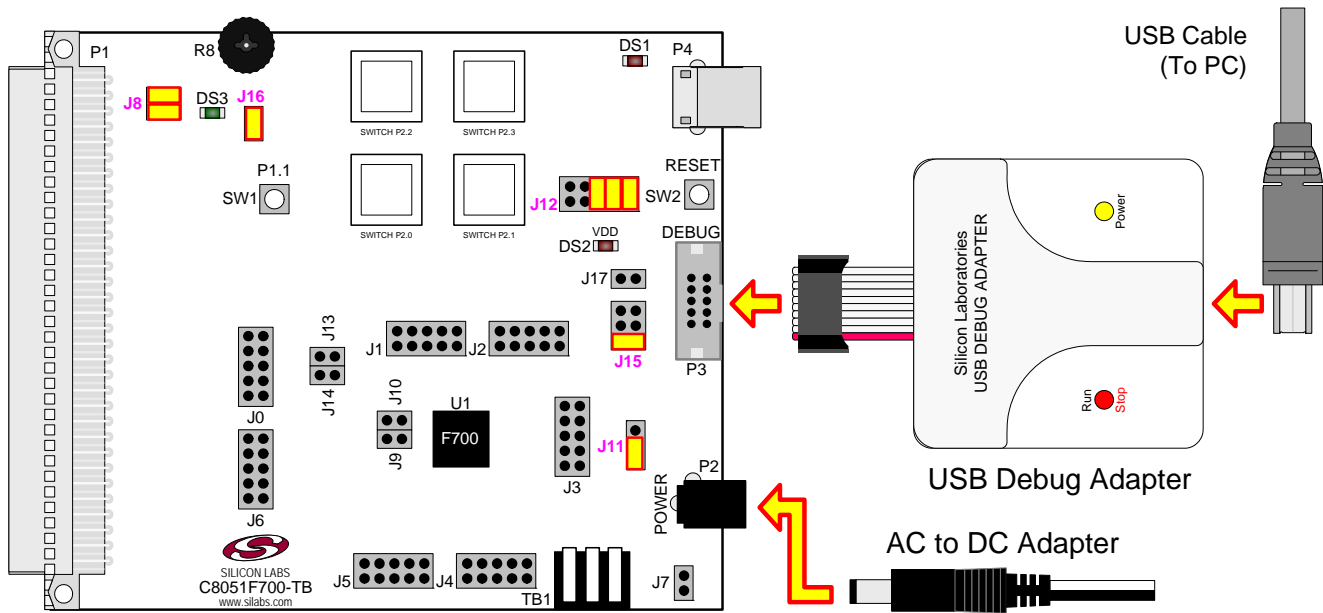

Figure 1. Hardware Setup using a USB Debug Adapter
Refer to Figure 1 for a diagram of the hardware configuration.
3. Verify that shorting blocks are installed on the target board as shown in Figure 1.